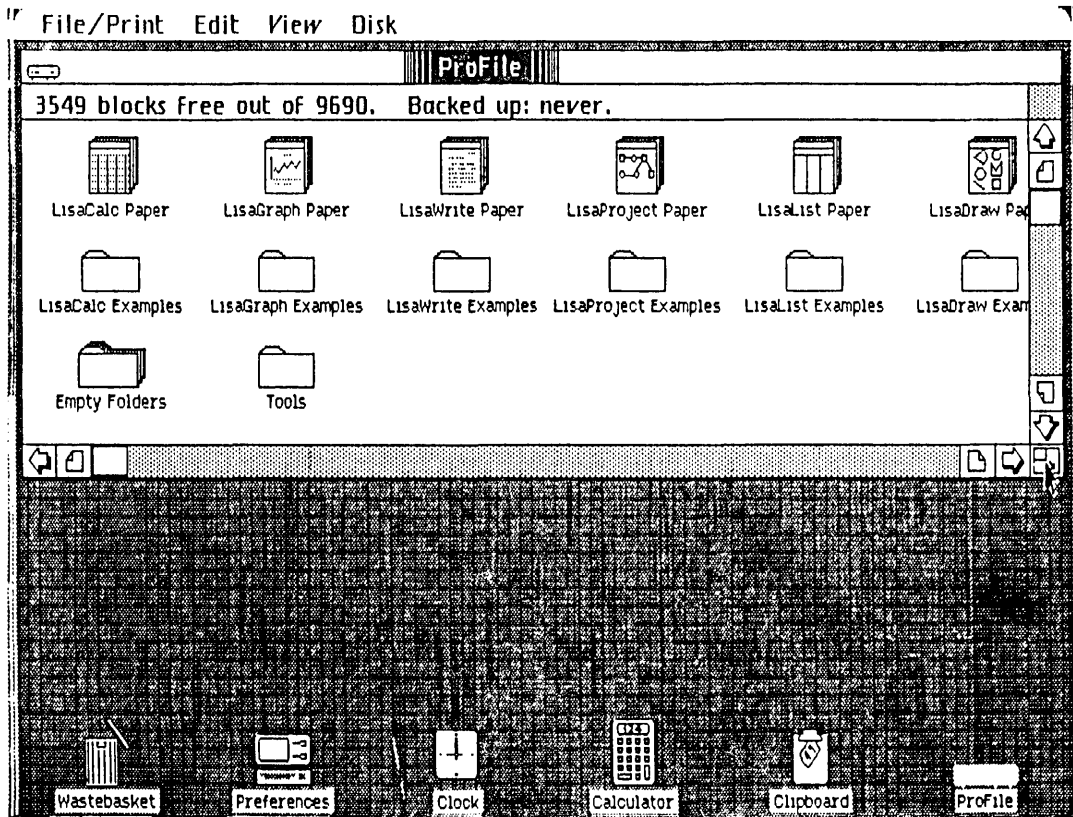

FIGURE 6
12. Move the remaining icons into the positions shown in Figure 6.
13. Make the ProFile window the size and shape shown in Figure 6.
16. Make sure the icons on the desktop are in the order shown in Figure 6. Open the View menu and select "Straighten up Icons".